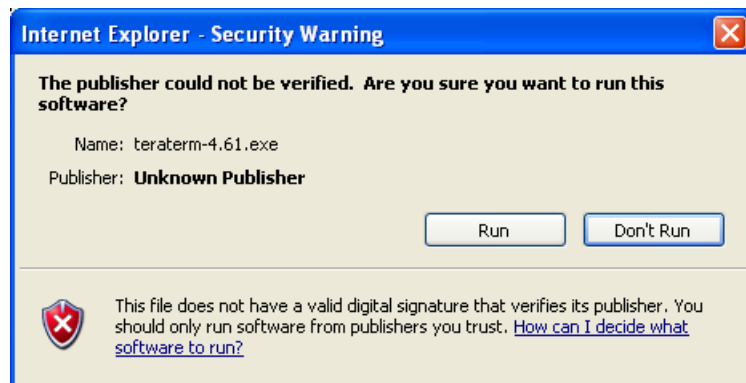

Figure 6-12: Internet Explorer Security Warning
6. If the security warning screen appears, click **R**un (Figure 6-12).